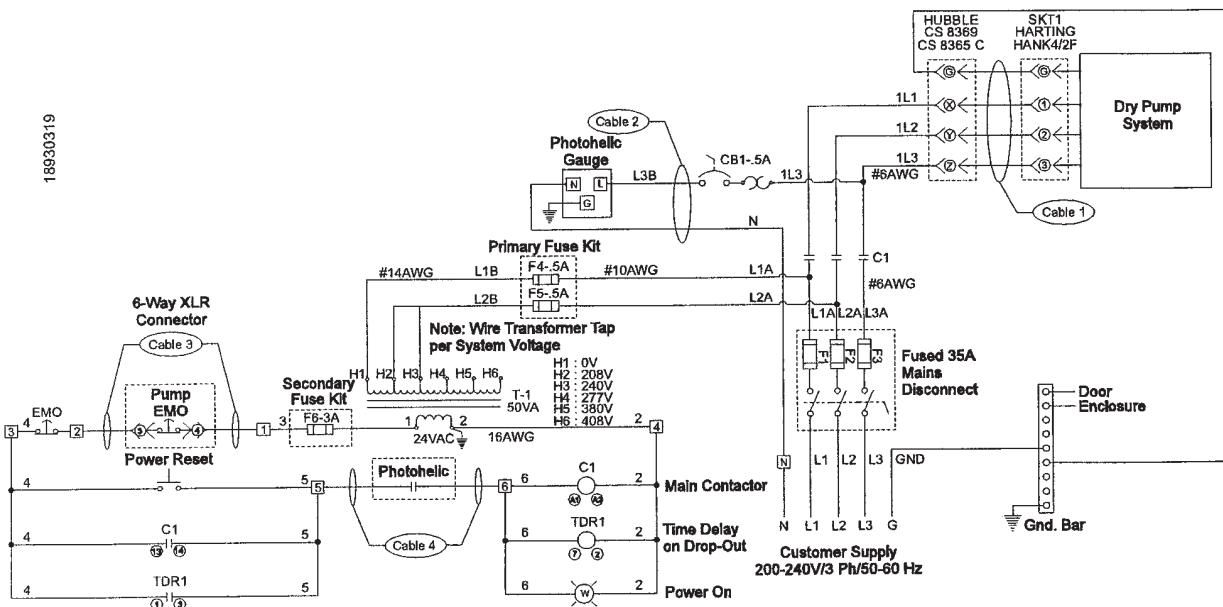
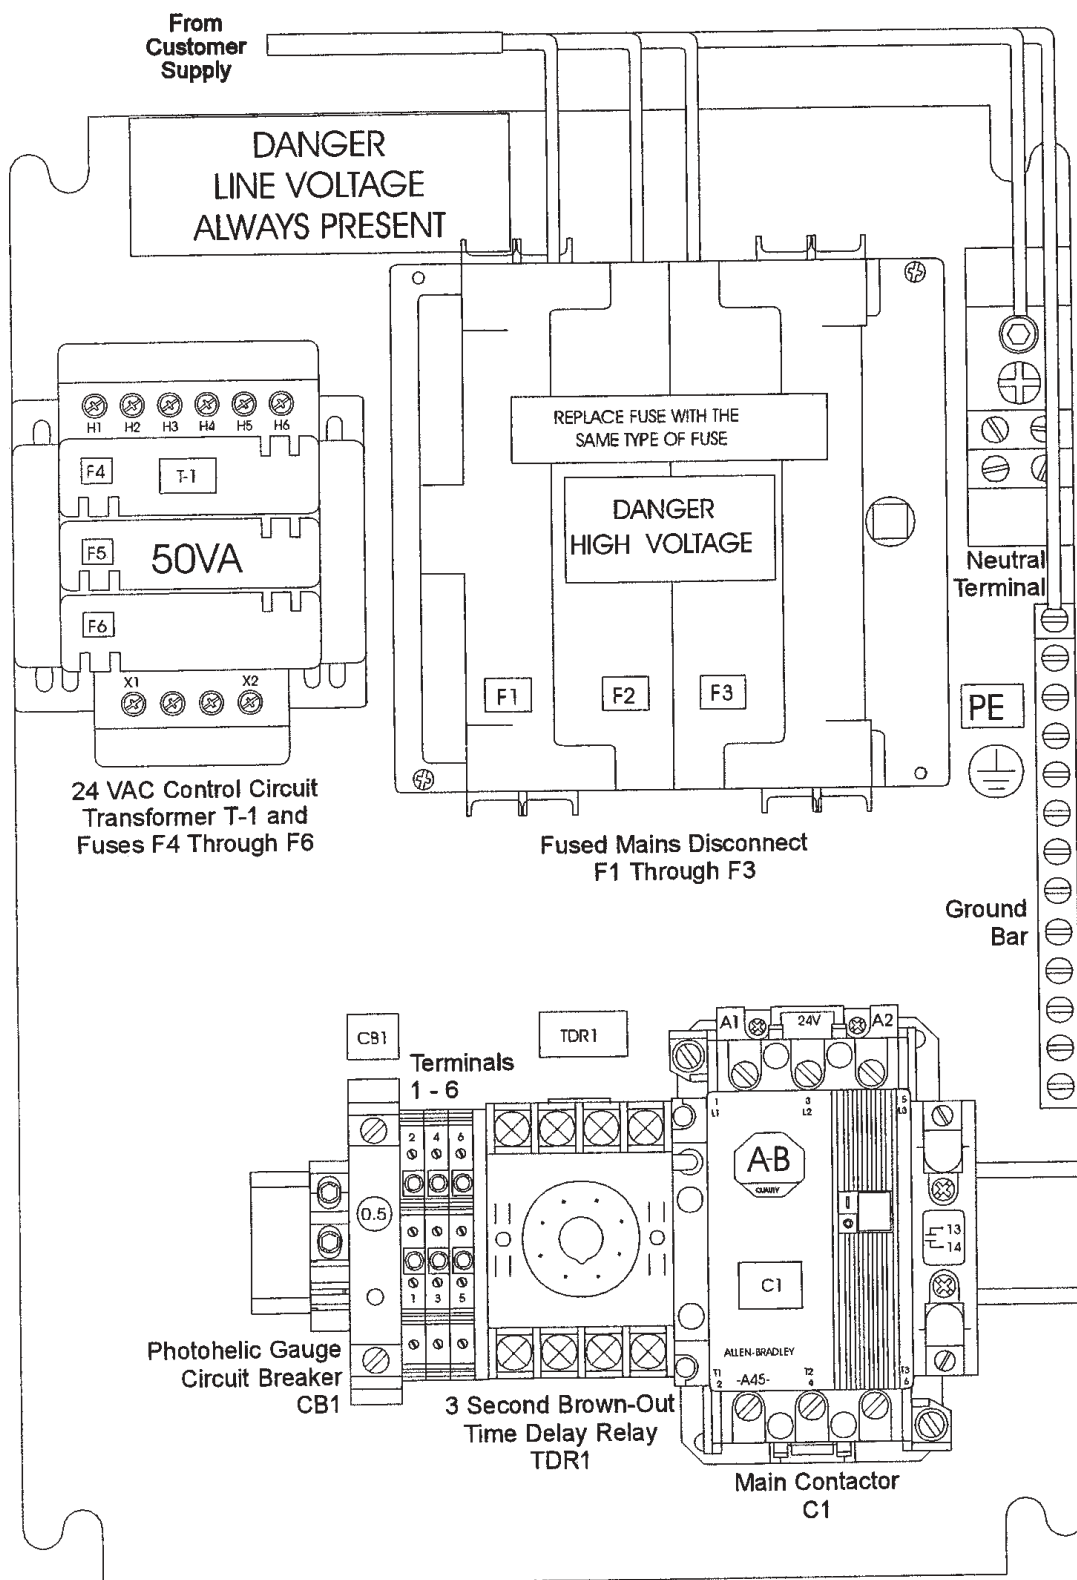
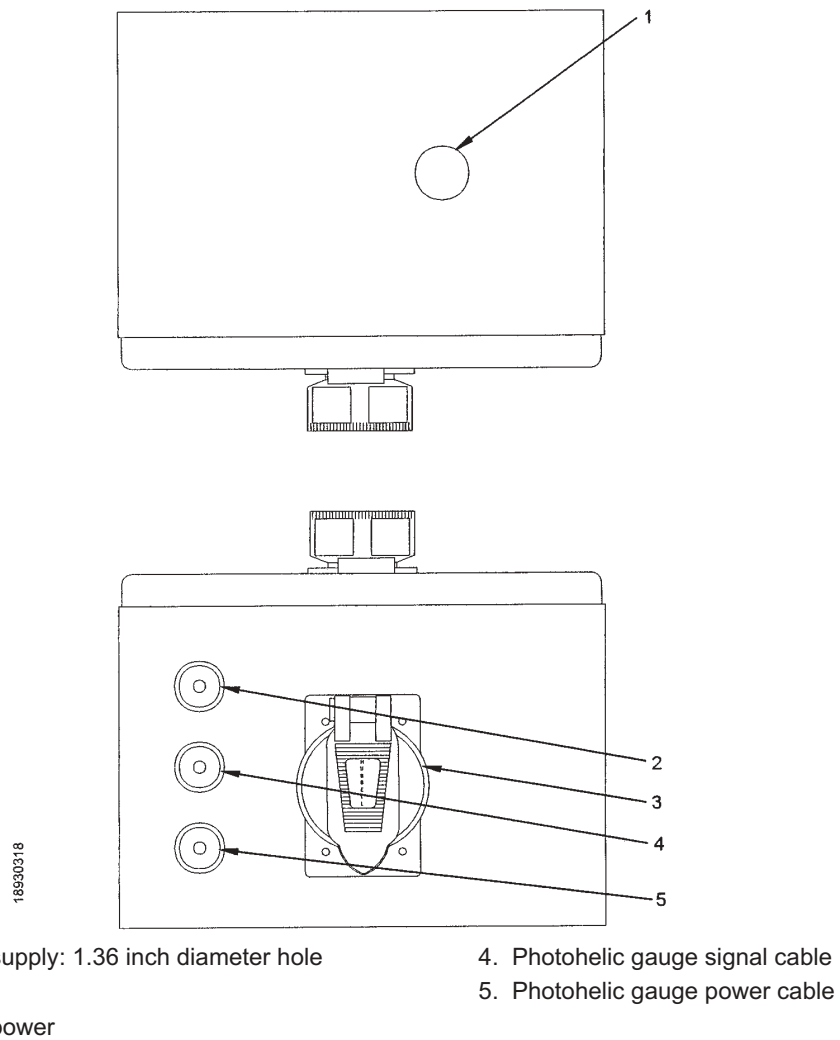

Figure 3-15 Disconnect box electrical schematic
Figure 3-16 Disconnect box sub-panel general arrangement
Figure 3-17 Disconnect box cable connections
The electrical schematic is shown in Figure 3-15. The electrical connections between the disconnect box, incoming electrical supply and pump are described in the following sections. Refer to Figure 3-16 for electrical supply connections, and Figure 3-17 for cable connections.
2. Tie in the customer power to the supply side of the fused mains disconnect as shown in Figure 3-16.
1. Punch out the EMO cable outlet hole (2) on the bottom of the disconnect box. (See Fig 3-17)
2. Connect the cable cores to terminals 1 and 2 of the disconnect box. (See Fig 3-15 and 3-16)
3. Punch out the photohelic gauge signal and power cable holes on the bottom of the disconnect box. (Items 4 and 5 on Fig 3-17)
4. Connect the photohelic switch/gauge signal cable to terminals 5 and 6 (See Fig 3-15 and 3-16).
5. Connect the photohelic switch/gauge power cable to CB1, the Neutral Terminal and the Ground Bar. (See Fig 3-15 and 3-16)